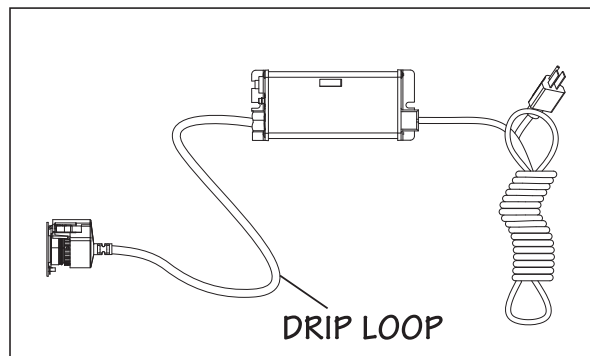

Figure 5 Drip Loop
- The controller should be mounted either above or beside the chamber. Always mount controller horizontally to prevent moisture from running down cordage and causing a potential fire hazard. Drip loops in all cordage connected to controller is highly recommended. Refer to Figure 5.
4. Mount the ICE controller horizontally to the wall, near the chamber. Ideally place the controller above the reactor and away from any water connection point, to prevent any water from potentially leaking onto the controller by means of a leak at a connection point or a “sweating” system. Make sure you allow for a “drip-loop” as shown in Figure 5 on the lamp, and power cord, again, to prevent any water from potentially entering the controller.